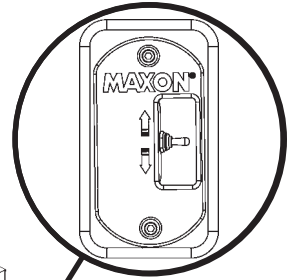
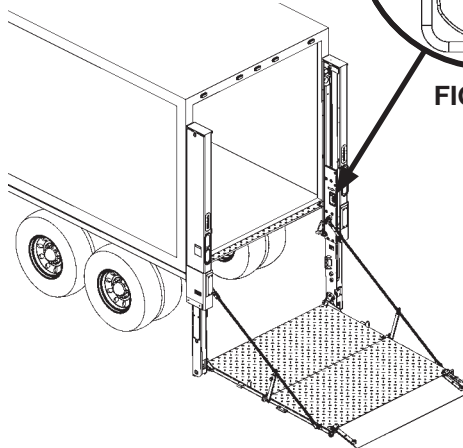

FIG. 10-2A
FIG. 10-2B
Toggle switch (FIG. 10-2A) on RH runner lets operator raise (UP) and lower (DOWN) the platform (FIG. 10-2B) only. Switch stays within reach when operator rides platform UP and DOWN.